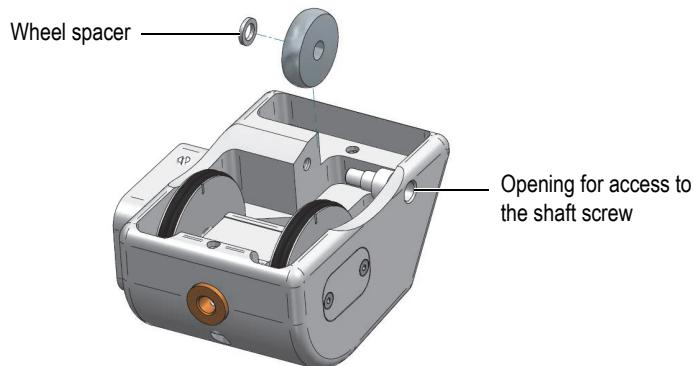

Figure 3-4 Idler wheel
1. Loosen and remove the screw on the end of the idler-wheel shaft, using an Allen key (see Figure 3-4 on page 25).